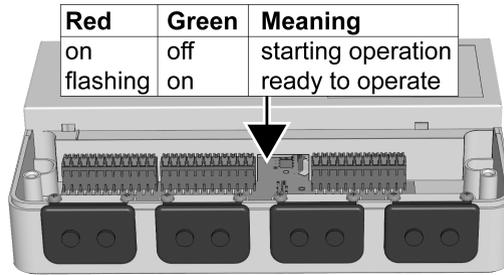

Figure 8: Meaning of the status LED
- Connect the USB-LAN adapter (12, see accessories) to the USB connection (11).
- A:** Connect the plug-in power supply (see accessories) to the Micro-USB connection (10) of the basic device.
- B:** Connect the Micro-USB connection (10) of the basic device to a USB connection of the router using a suitable adapter cable (max. 1 metre, not supplied in scope of delivery).
- Wait for the starting operation to run through (Figure 8).
- Connect the USB-WiFi adapter (13, see accessories) to the USB connection (11).
- Connect the plug-in power supply (see accessories) to the Micro-USB connection (10) of the basic device.